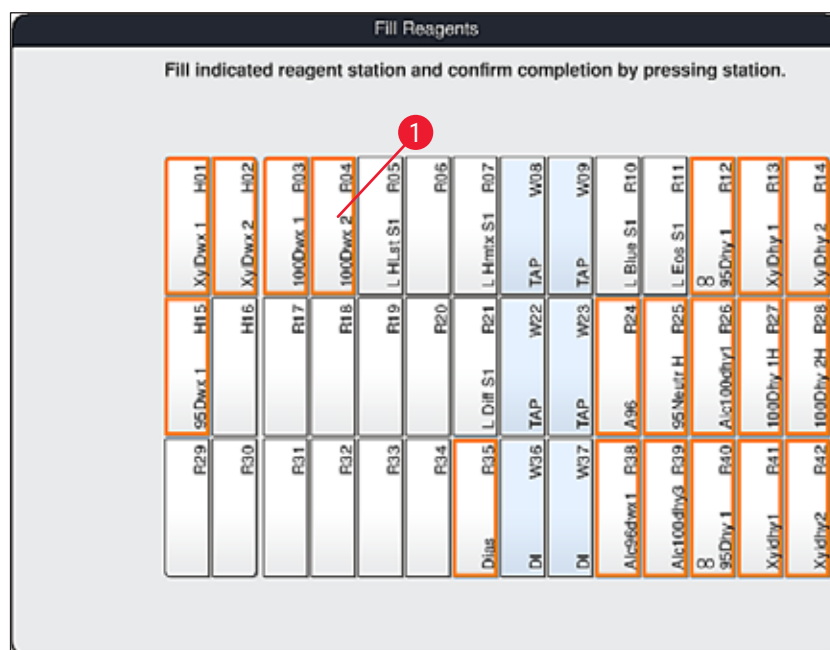

Fig. 55
2. In the new **Fill reagents** (→ "Fig. 55") window, the stations to be filled are marked in orange (→ "Fig. 55-1").
Only user-defined and added reagents of Leica staining programs are displayed with an orange marking (→ "Fig. 55"). The reagents from the Leica reagent kit are subsequently scanned (→ P. 82 – Filling the Leica reagent kit reagents).